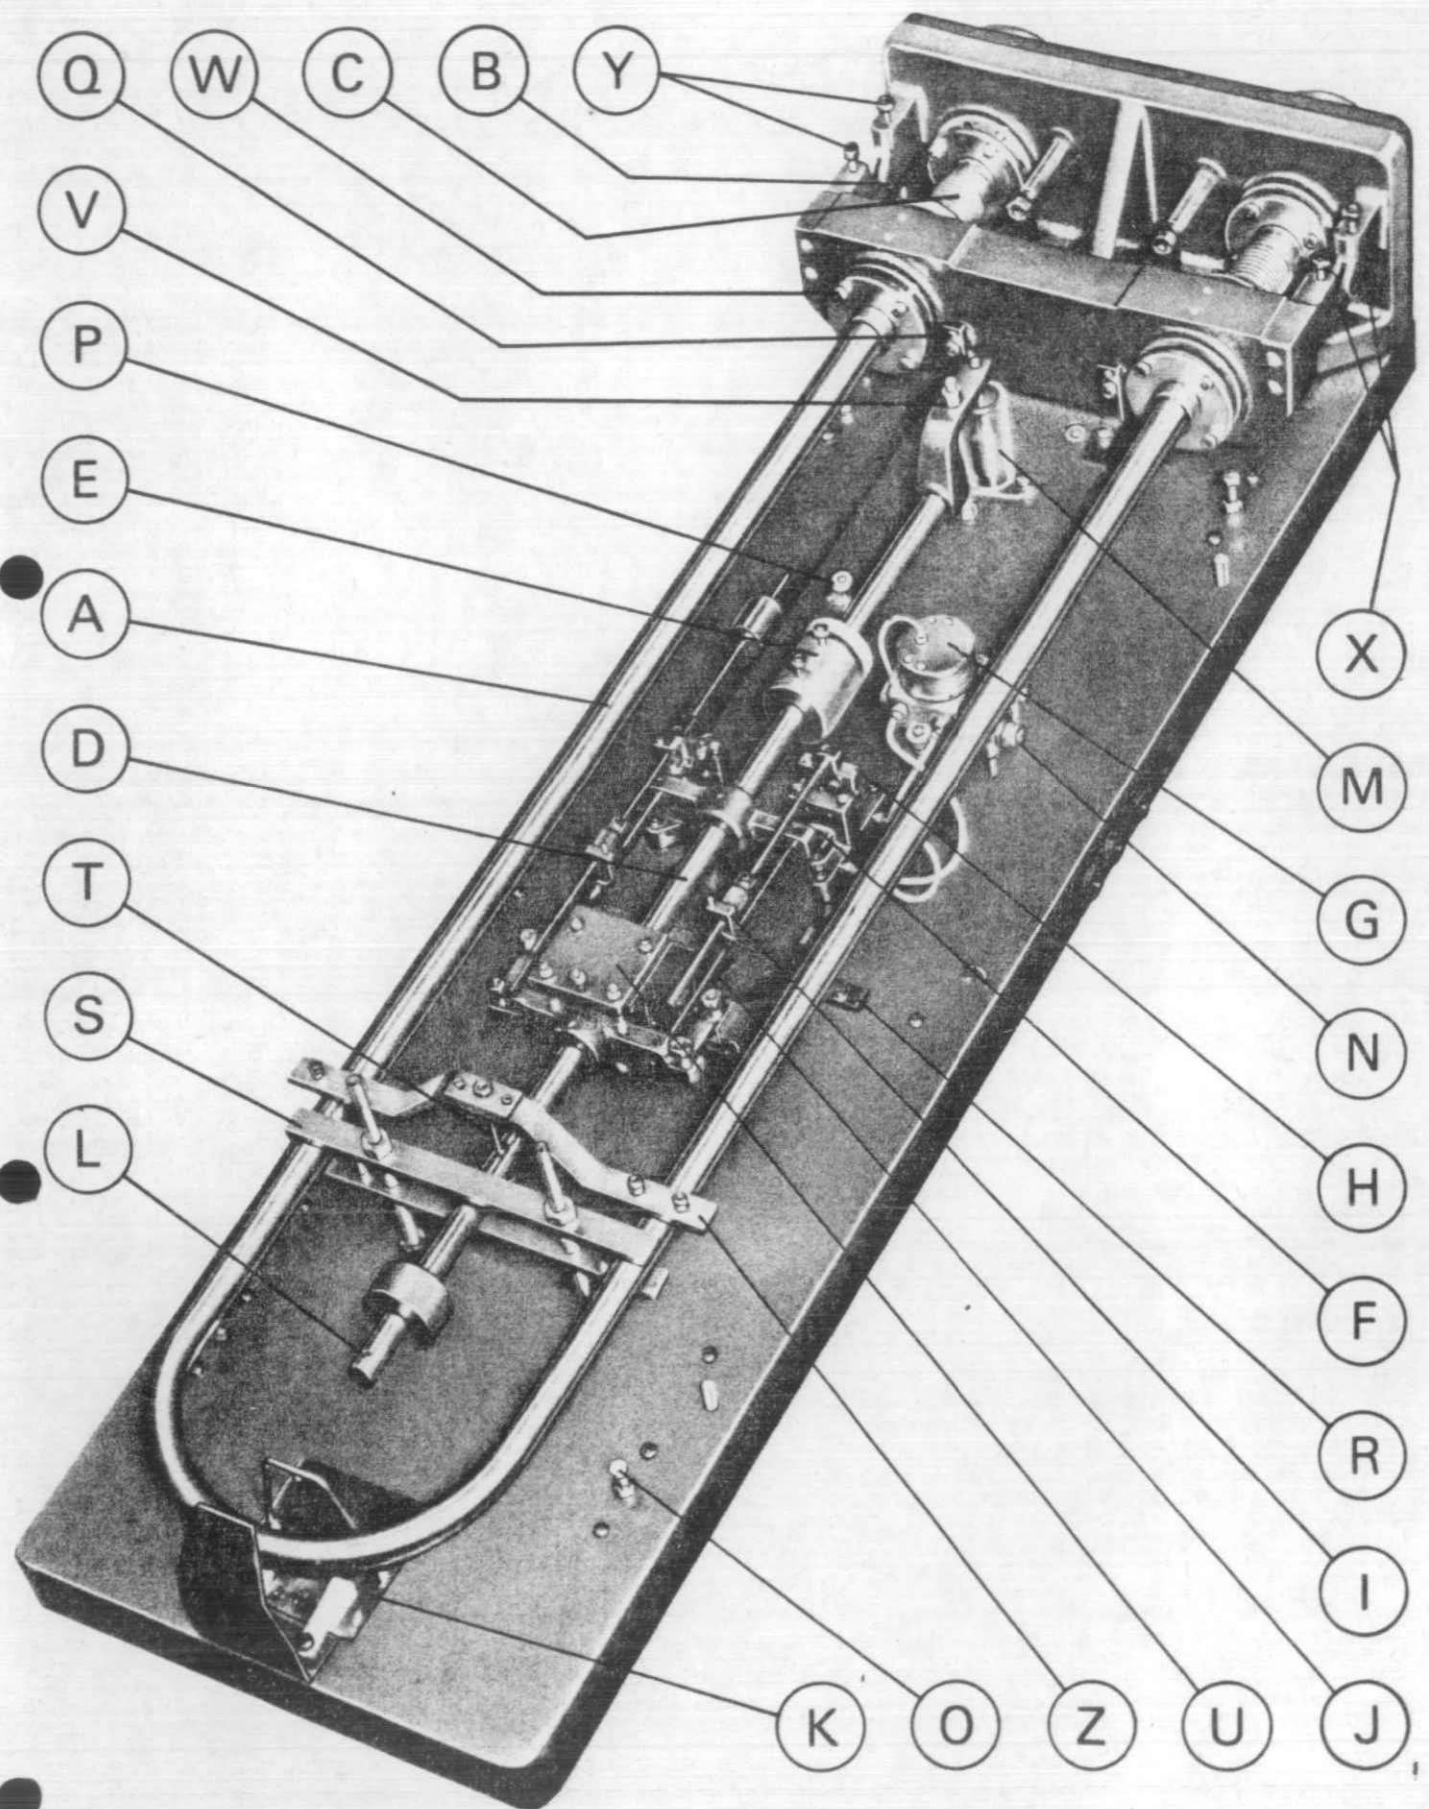

Fig. 1
- 1.1 The process liquid flows through the tube loop (A), fig.1, pivoted on flexures (B) about a horizontal axis which passes through the flexible connectors (C). The weight of the tube loop and contents is transferred to the weigh-beam (D) and counterpoised by the balance weight (E) which is adjustable along the beam.